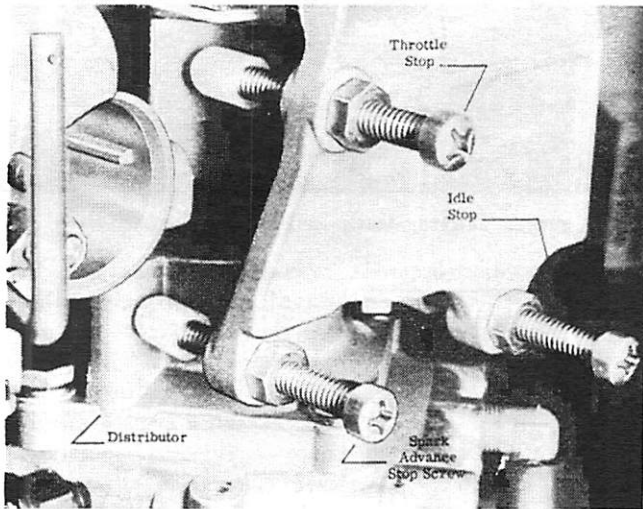

Figure 3. Spark Advance Adjustment
11. Retard distributor against "idle speed" stop screw. (Figure 3)
2. Adjust "throttle stop" screw on stop bracket (Figure 3) to allow full throttle shutter opening but not to allow throttle shutters to act as a stop or the carburetor cluster to hit carburetor filter bowl.
- Idle engine and adjust "idle speed" screw on stop bracket (Figure 3) so that engine idles at 500 RPM in forward gear.